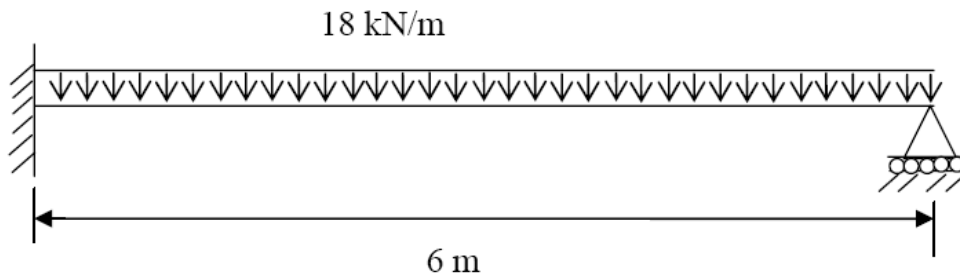

Figure 5
5. Determine the deflections at quarter span points from the prop. Assume constant EI throughout the beam. (Shown in Figure 5) [16]